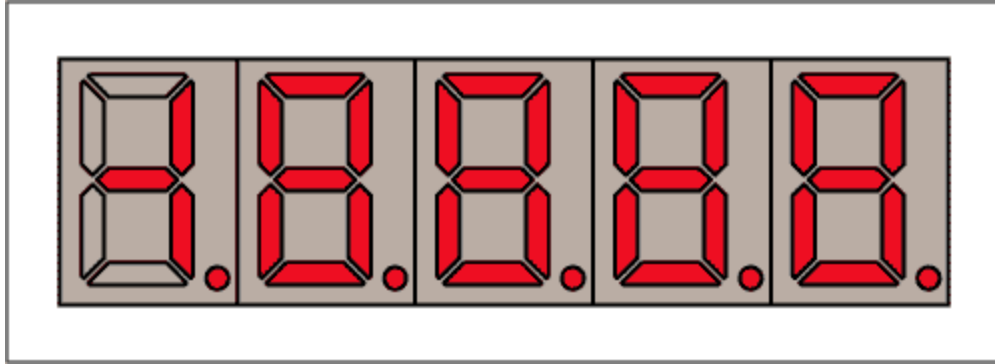

Figure 3. 4-1/2 digit display with all segments lit.
**Figure 3** shows the resulting 4-1/2 digit display with all segments lit. In a true  $\pm 19999$  meter display, the rightmost dp segment is usually not required. In other words, the display usually needs to show 1.9999 or 19.999 or 199.99 or 1999.9, but 19999. is redundant. The unused segment capability could therefore be used to drive an extra discrete LED instead, for example one that is made to blink for each measurement taken.